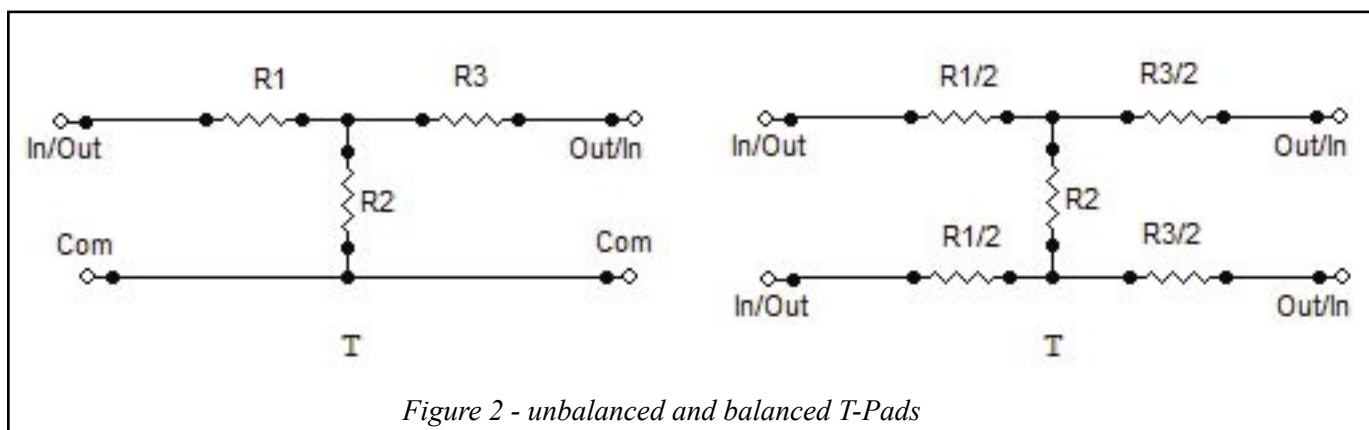

Figure 2 - unbalanced and balanced T-Pads
**T-pads** look like the letter T (Fig. 2). Input and output impedances are usually equal, however a T-pad can also be designed as a taper pad; designed to match one circuit impedance to another. An H pad is a balanced T pad. A T-pad designed for equal impedances is symmetrical; it reflects impedances equally well in either direction and may be used in either direction.